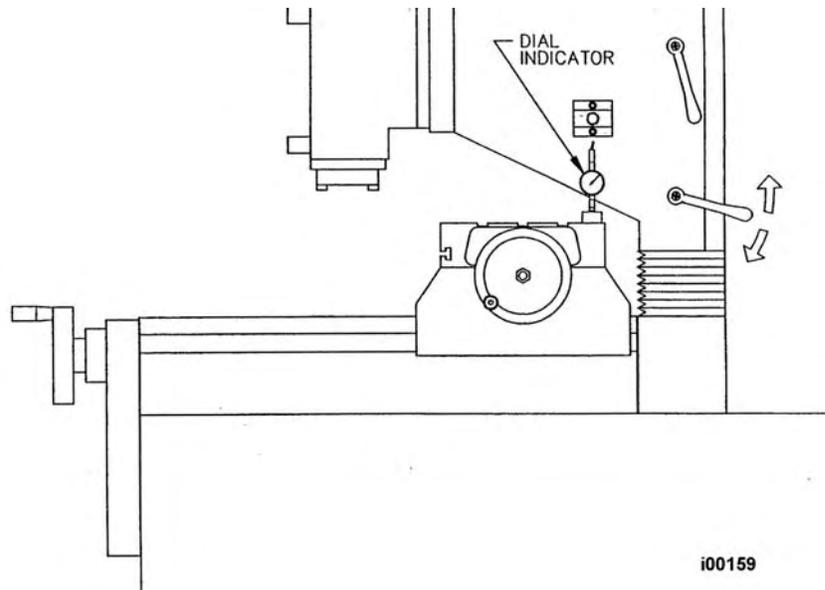

Figure 55
2. Attach a .0001 dial indicator with a magnetic base towards the rear of the table on the right side of the ram. Place the indicator stylus on the ram in line and below the lower mounting bolt for the coolant hose connector block. (See Figure 55)